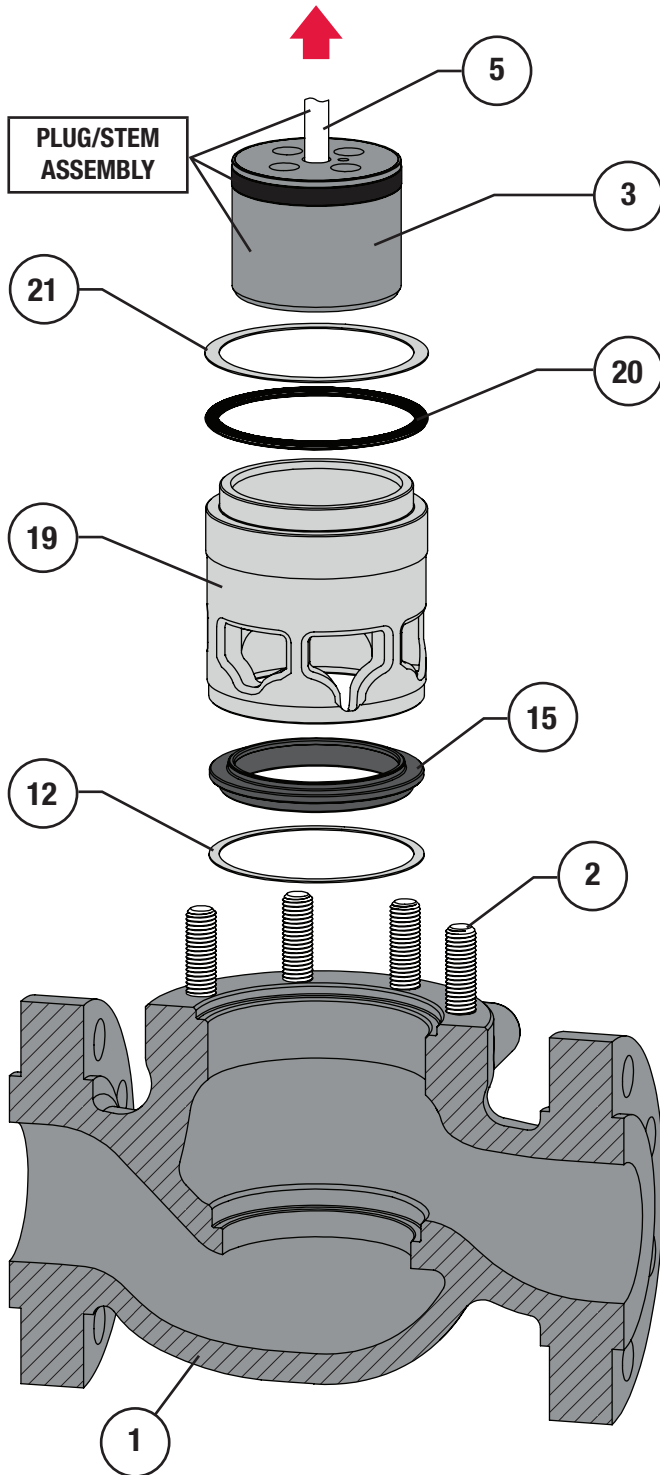

Figure 10 Standard Trim Parts Removal (Steps 1 - 6)
- 2 Remove the gasket (Key 22 or 25), metal shim (Key 21) and spiral wound gasket (Key 20) if they haven't already been removed. Refer to Figure 10.
- 3 Remove the valve stem (Key 5) / valve plug (Key 3) assembly from the valve body (Key 1), refer to Figure 10. Refer to Plug Seal Removal section for disassembly instructions.